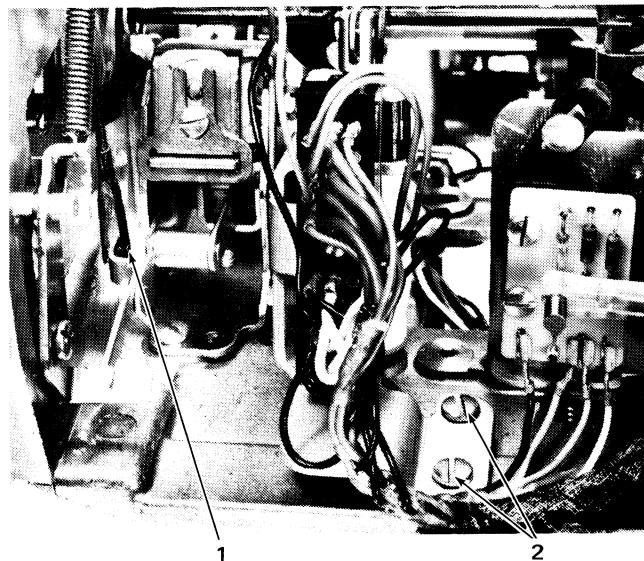

Figure 4-31. Index Magnet Assembly Removal (Rear of Printer)
2. Disconnect the index link at the bottom (No. 1, Figure 4-31).
3. Remove the two carrier return solenoid mounting bracket screws (No. 2, Figure 4-31).